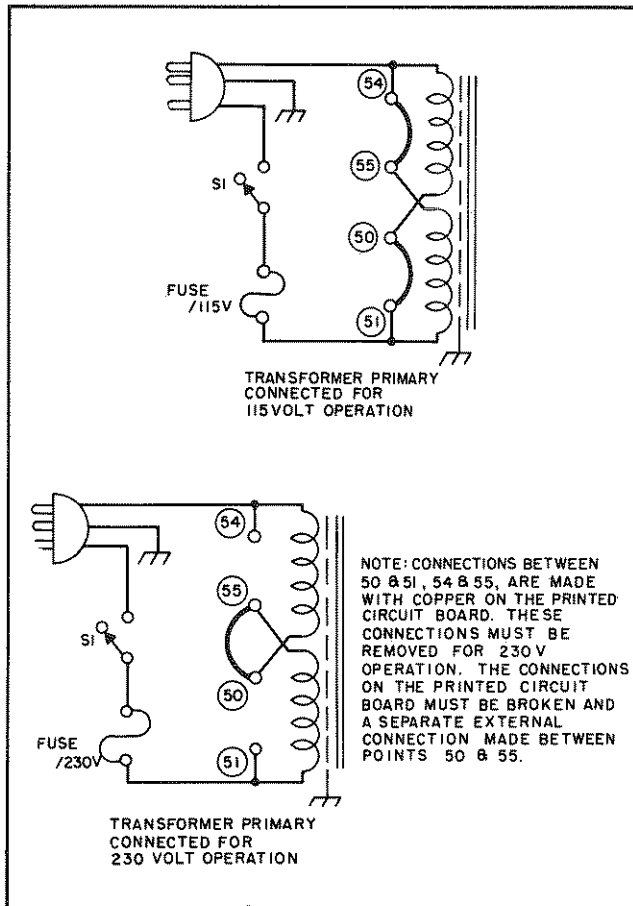

Figure 2-4. Primary Connections
## 2-19 CONNECTIONS FOR 230 VOLT OPERATION (Figure 2-4)
- Break the copper between 54 and 55 and also between 50 and 51 on the printed circuit board. These are shown in Figure 2-4 and are labeled on copper side of printed circuit board and on schematic.